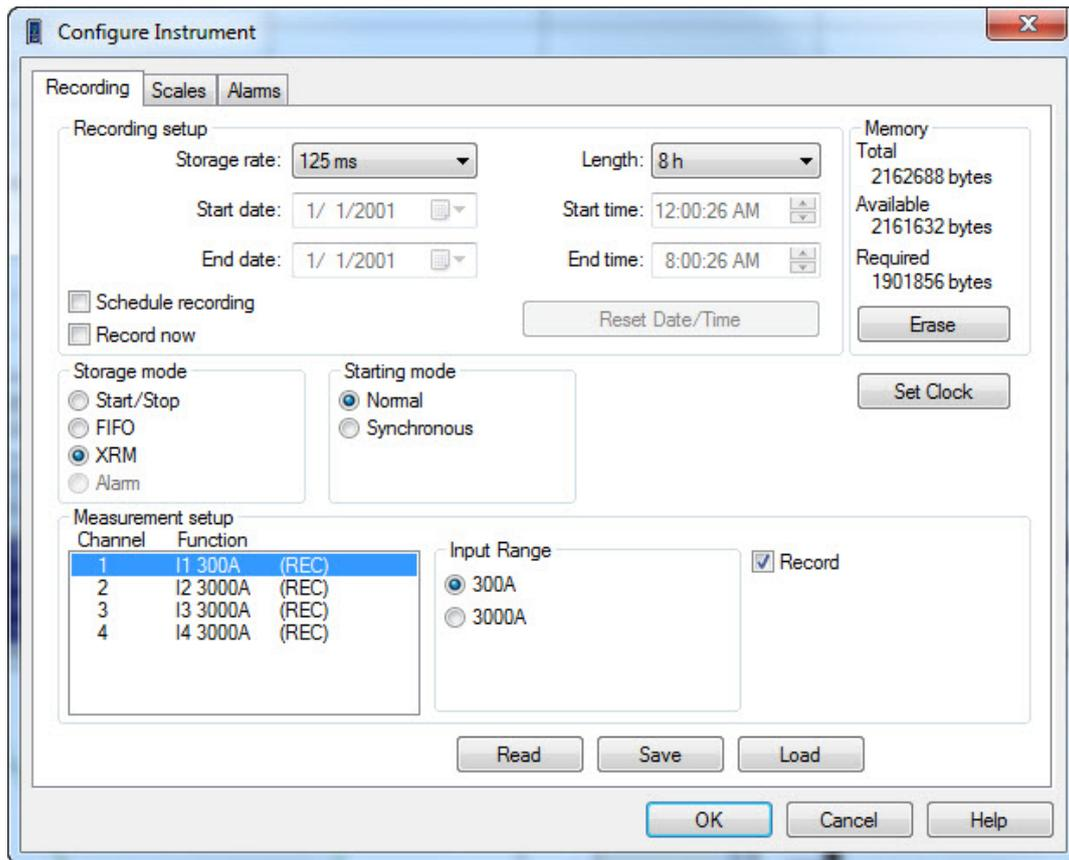

Figure 2-3
2. Then select Configuration in the Device menu. A configuration dialogue window like the one shown below (figure 2-3) then opens.
Figure 2-3 shows the first page (Record) and lets you define the following parameters: